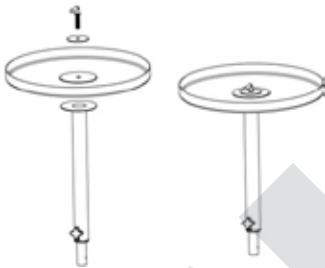

Fig. 2
7. Place the washer over the opening on the bottom of the base. After that, insert the screw for the socket fastener and tighten the screw (Fig. 2).